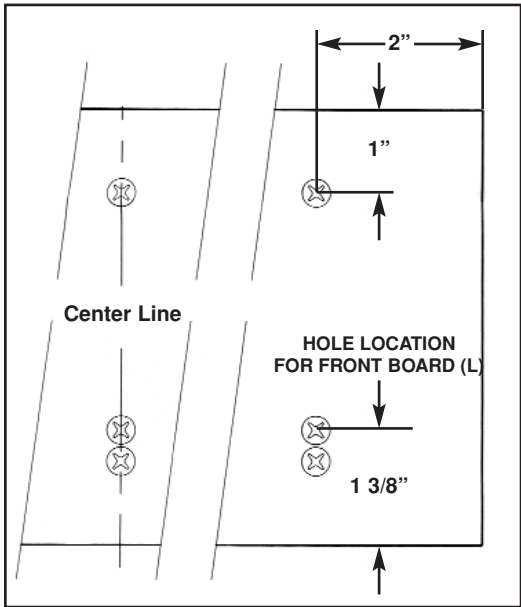

Figure 5
2. Drill holes in boards (L), (M) and (N). Refer to Figures 5 through 7.